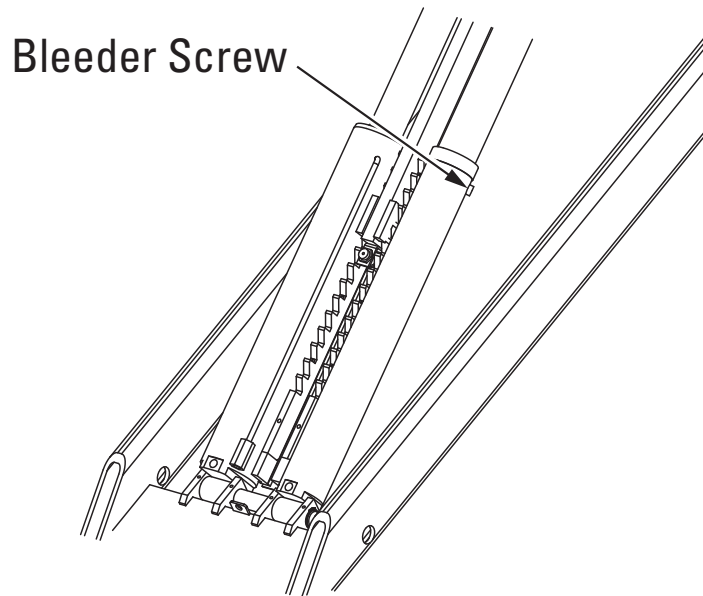

Fig.4.3
- Open the bleed screws (1) on the slave cylinder as shown in Fig. 4.3 and close them again after bleeding air from the cylinders. Press the lifting button again, then open the bleed screws again (1) Fig. 4.3 to bleed air from the cylinders.